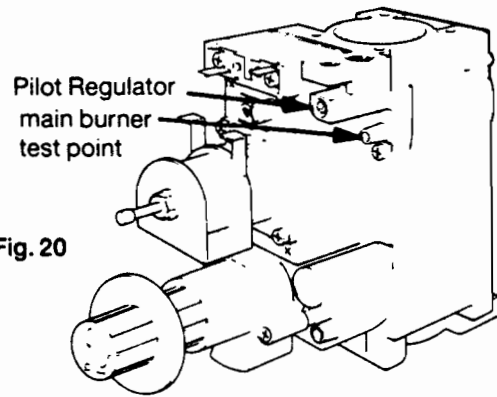

Fig. 20
6.7.4 Locate the main burner pressure test point (fig 20) and slacken the screw half a turn in an anti clockwise direction. Attach a suitable pressure gauge. Turn on electricity supply, turn on a domestic hot water tap to operate boiler in dhw mode.